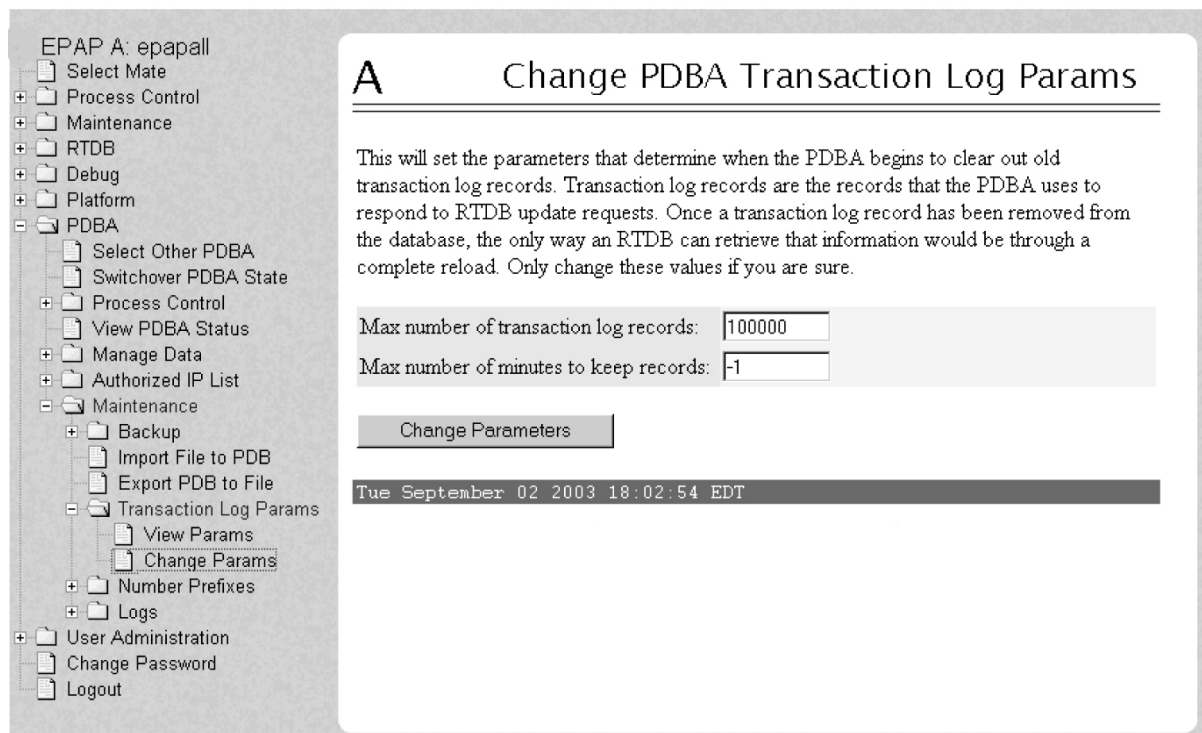

Figure 32: Changing Transaction Log Parameters
10. If you wish to increase the size of the transaction logs, select **PDBA> Maintenance > Transaction Log Params > Change Params** as shown in Figure 32: Changing Transaction Log Parameters.